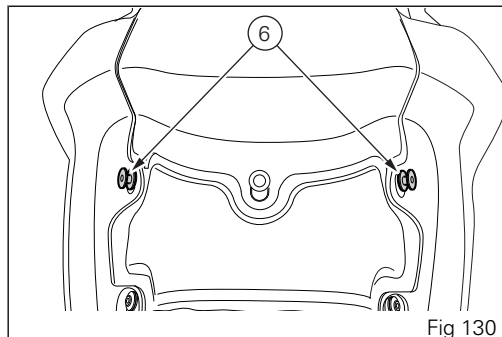

Fig 130
Position the front part of the rider seat (4), with slots (7), in the pins (6, Fig 130) of the tank.